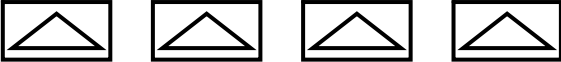

Fig. 1.1a: Config. – Searching Sensors
1. The system will search for system sensors. While searching, the LCD display will alternate between Figure 1.1a and Figure 1.1b.
*Note: When selecting CONFIG during subsequent programming, Figure 1.1a will be displayed only if new sensors are found.*
- ◆ EXIT – returns to the Sensor Submenu (see Figure 1.1a).
The Sensor Submenu (see Figure 1.1a) is displayed.